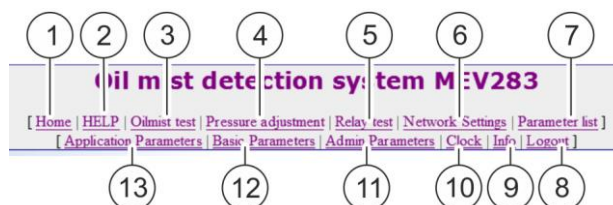

Fig. 35: Menu bar
1. Click on "Relay test" (Fig. 35/5) in the menu bar.